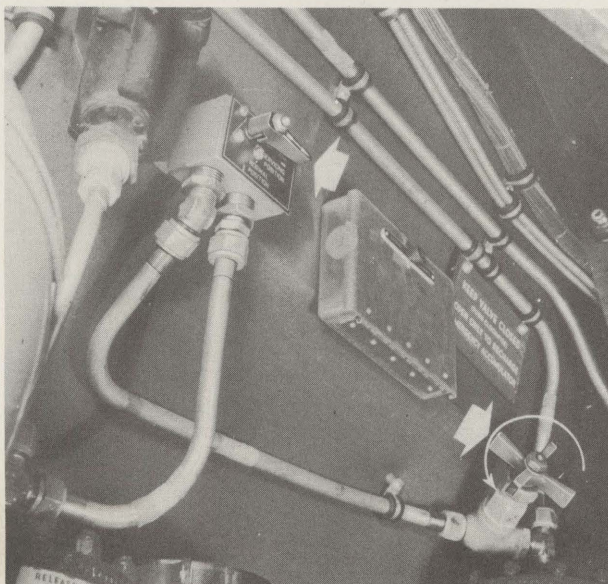

Figure 5 - Servicing Emergency Accumulator
(2) In some airplanes the hydraulic pump is controlled by an "ON-OFF" switch on the pilot's control panel. This switch must be "ON" to maintain pressure automatically.
b. EMERGENCY BRAKE SYSTEM. - A spare accumulator and auxiliary metering valves provide emergency brake operation. A red warning lamp on the pilot's instrument panel lights when pressure in the emergency system fails to approximately 700 pounds per square inch. To charge the emergency accumulator, open the manual shut-off valve and turn the selective check valve to the "SERVICING" position. (These units are located on the right side wall at the rear of the control cabin. See figure 5.) Build up 800 pounds pressure in the system, then return the selective check valve to "NORMAL" position and close the manual shut-off valve.